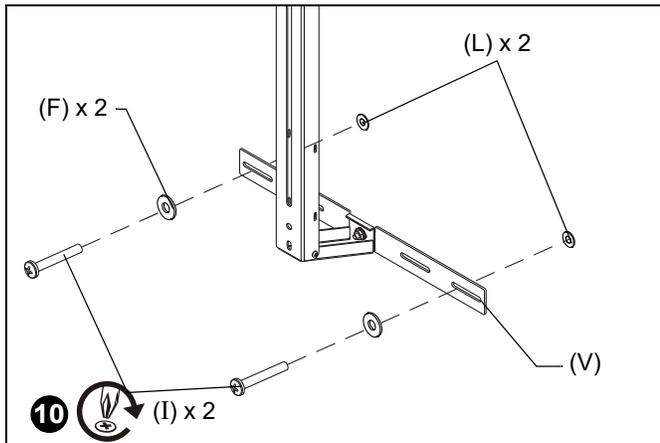

Figure 25
- Use two 1/4-20 x 1-3/4" Phillips pan machine screws (I) and two 1/4" flat washers (F) to attach each lower wall bracket (V) to anchors in wall. (See Figure 25)